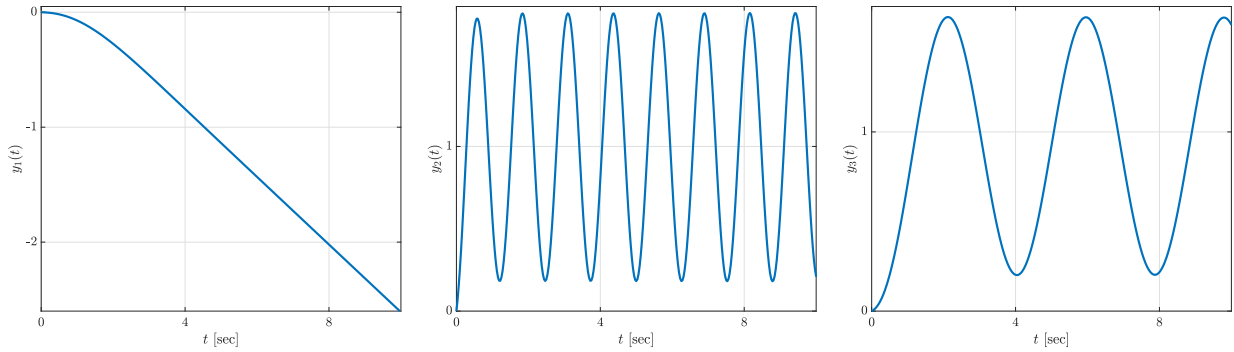

Fig. 3: Step responses of the closed-loop system for different  $k_p$
3. Fig. 3 presents the closed-loop step responses for  $k_p = 0.093$ ,  $k_p = -0.008$ , and  $k_p = 1.885$ . Match the time-domain response to each of these controller gains. What are the steady-state frequencies of the oscillating responses?